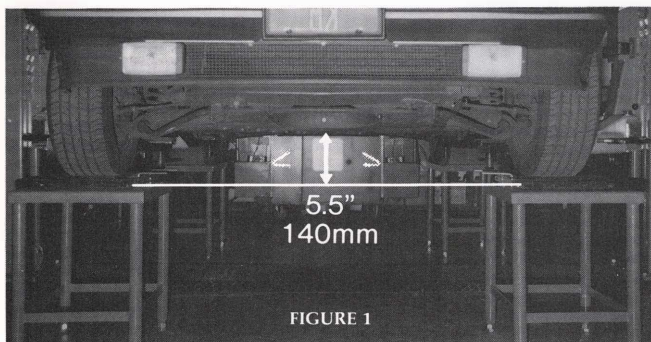

FIGURE 1
5) Check and, if necessary, adjust setting height 140 mm (5.5 inches). Figure 1. This measurement must be taken from the center of the front crossmember.